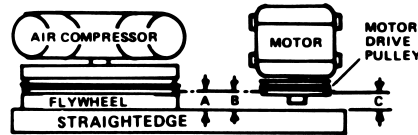
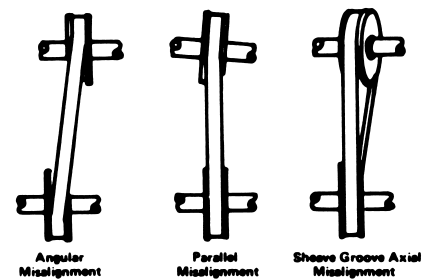

Figure 7
Figure 8
Check the pulley by placing a straightedge against the compressor flywheel, [Figure 7]. Measure the distance from the straightedge and the center of the drive belt groove at points A, B and C. The distance should be the same at all three points. If any of these measurements varies, there is a misalignment which must be corrected before the compressor is run, [figure 8]. To correct a belt misalignment, use the following procedure:
4. Align the motor pulley with the compressor flywheel, [Figure 7].